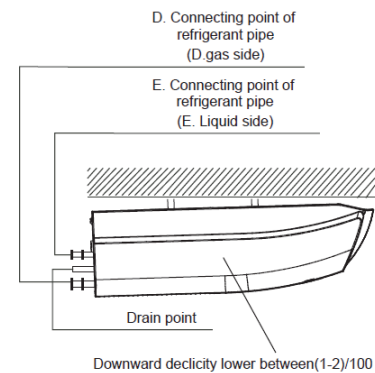

Fig. 18 — Ceiling installation
4. Install the unit (see Figures 18 and 19).